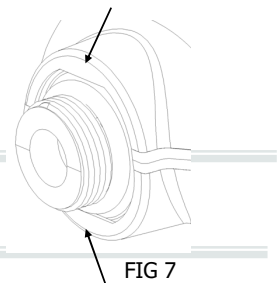

FIG 7
3. The sensor is registered as shown in FIG 5 and FIG 7 and the connecting wires are not bent or bound when closing up the enclosure and tightening the Phillips screws, FIG 6.